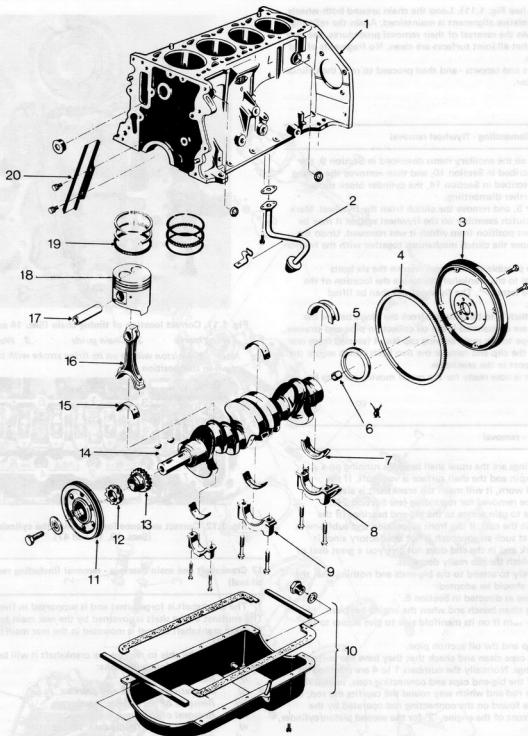

Fig. 1.13. Exploded view of cylinder block components. (Sec. 17)
- 1 The crankshaft is forged steel and is supported in five main bearings. The endfloat of the shaft is governed by the rear main bearing shell. The rear crankshaft oil seal is mounted in the rear main bearing cap (Fig. 1.13).